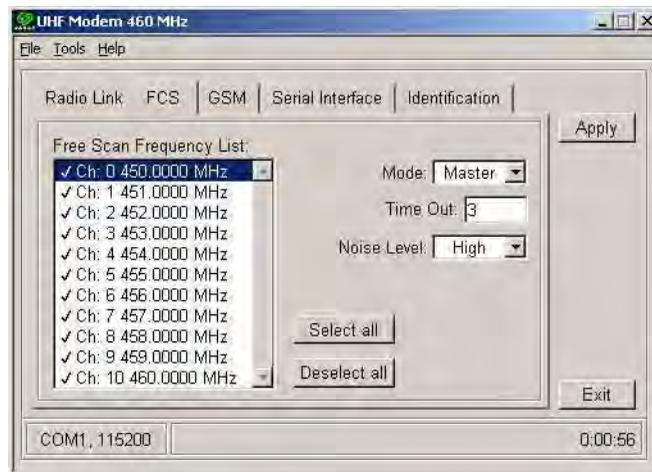

Figure 2-27. FCS Tab
2. Click on the **FCS** tab (Figure 2-27).